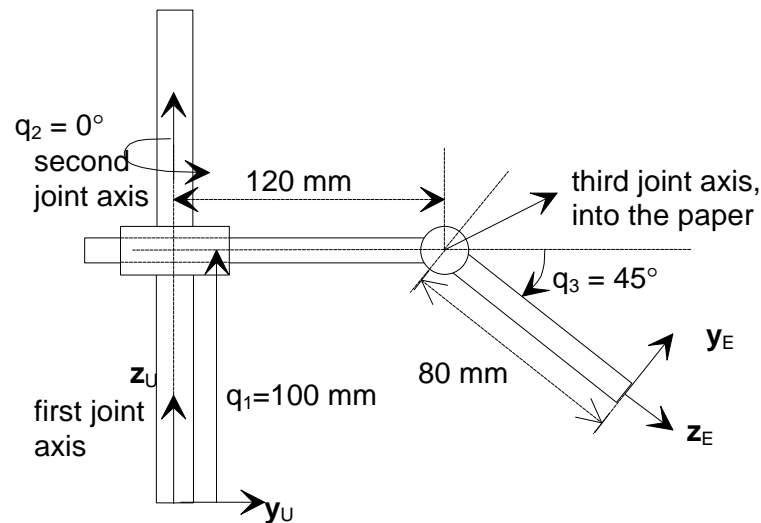

Figure 2
Q.2 (a) The 3-DOF manipulator in Fig. 2 has one translational joint (q_1) followed by two rotational joints (q_2 and q_3). The axes of motion are as shown in the figure. At the configuration shown, we have $q_1 = 100$ mm, $q_2 = 0^\circ$ and $q_3 = 45^\circ$. Frame U serves as the fixed frame of reference. Frame E is attached rigidly to the last link (end-effector) of the robot.
(i) Assign frames to each link according to the Denavit-Hartenberg convention discussed in the class. Make sure that the frame assignments are consistent with the positive directions of motion and zero positions indicated in Fig. 2